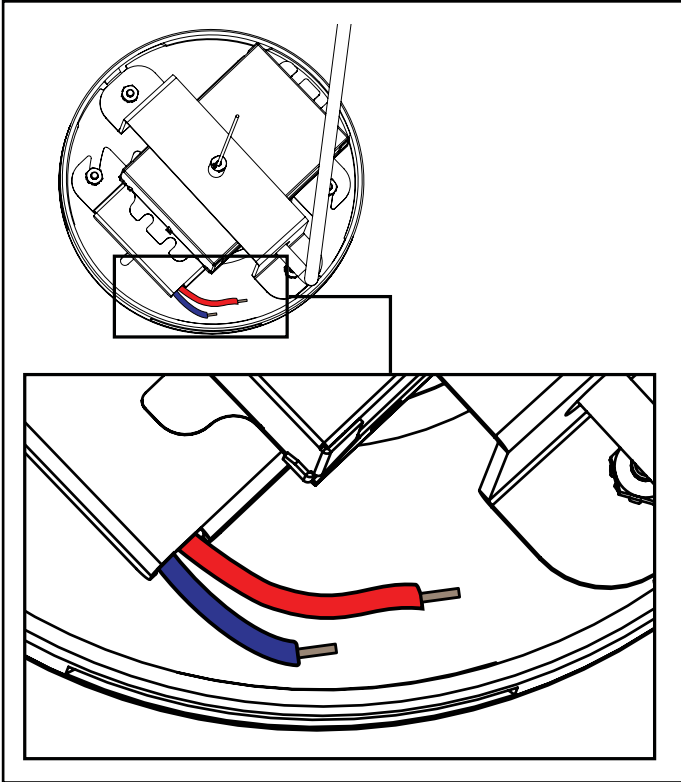

Figure 7
8. Route the Low voltage wire routing (LED wires) from the **Driver Enclosure (D)**. (Figure 7)